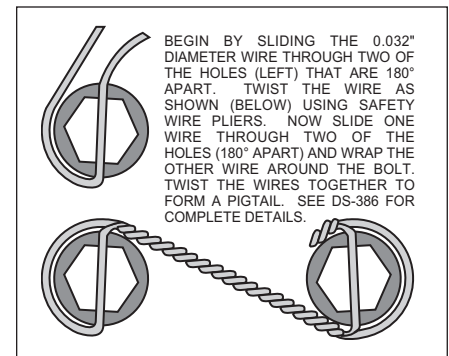

Figure 3. Safety Wire Diagram
•With the larger I.D. side of the rotor (5) facing away from the hat (6), bolt rotor (5) to hat (6) through the backside of the rotor using washers (7) and bolts (8). Torque bolts (8) in an alternating sequence to 85 **in-lb**. Safety wire bolts (8) using standard 0.032 inch diameter stainless steel safety wire as shown in Figure 3. Please refer to Wilwood's data sheet DS-386 (available at [www.wilwood.com/pdf/ds386.pdf](http://www.wilwood.com/pdf/ds386.pdf)) for complete safety wire installation instructions. Slide the rotor/hat assembly onto the spindle. Check to be sure the hat seats squarely against the hub. Install a couple of lug nuts (finger tighten) to keep the rotor/hat assembly in place while continuing with the installation.
•**NOTE:** Please reference the caution statement at the beginning of the assembly instructions. Install spacer (13) and one washer (14) over each pre-installed stud (12) on the radial mount bracket (1). Slide the caliper (9) in place over the studs and rotors, then install the washer (11) and lock nut (10) to hold the caliper in place. The caliper bleed screws should be pointing up. Snug the lock nuts (10) and check that the rotor (5) is centered in the caliper (9). Add or subtract .03" shims (2) as necessary between the caliper mounting bracket (1) and the spindle to center the caliper (9).
•Remove the caliper center bridge pad retainer bolt, nut, and tube from the caliper. Slide the brake pads (15) into place. They should install easily without interference. Check that the outside radius of the brake pad is aligned with the outside diameter radius of the rotor face. Add or subtract shims (14) between the caliper and mount bracket to gain the proper alignment. Reinstall the center bridge pad retainer tube, bolt, and locknut. The locknut should be snug without play in the bolt or tube. Be cautious not to over tighten.
•Once all clearances have been checked, remove the wheel, caliper, hat, and rotor from the spindle and hub. Secure the caliper mounting bracket (1) to the spindle with bolt (3) using red *Loctite*® 271. Torque bolt (3) to 100 ft-lb. Reinstall the hat and rotor assembly and again use lug nuts to hold it in place. Lubricate caliper mounting studs and nuts with lightweight oil, reinstall the caliper, torque the caliper nuts (10) to 30-35 ft-lb.